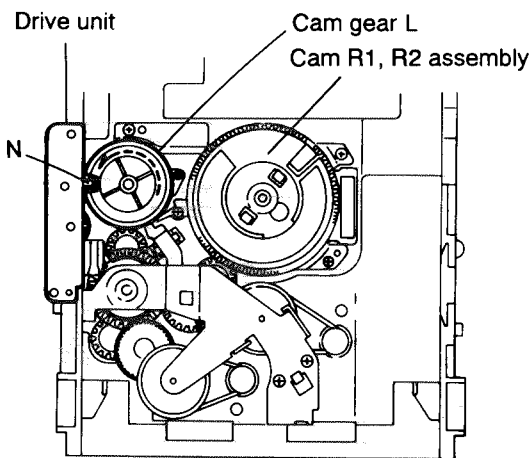

Fig. 2-25
(See Figs. 2-25 and 2-27)
2. While turning the cam gear L, align the pawl (N) position of the drive unit to the notch position (Fig. 2-25) on the cam gear L.